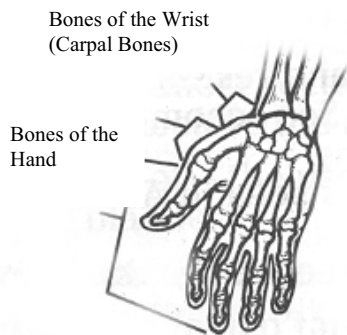
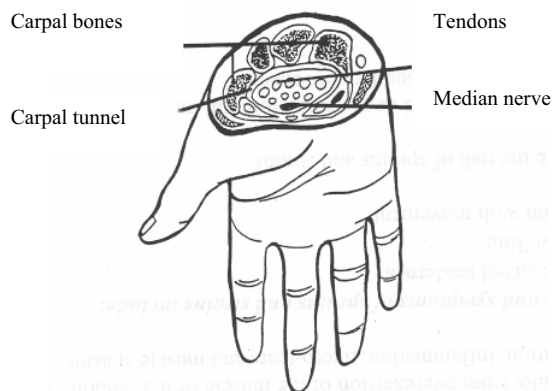

Figure 1
Figure 2
- **Bony Structure:** Eight small bones called carpal bones make up the bony structure of the wrist (Figure 1). The bones are aligned in two rows and form the bottom and sides of the carpal tunnel (Figure 2).
- **Ligament:** A thin, but very strong band of connective tissue called a ligament covers the top of the carpal tunnel (Figure 2, 3). A complex network of smaller ligaments holds each carpal bone to the next.
- **Nerve and Blood Supply:** Part of the nerve and blood supply to the hand also passes through the carpal tunnel (Figure 2).